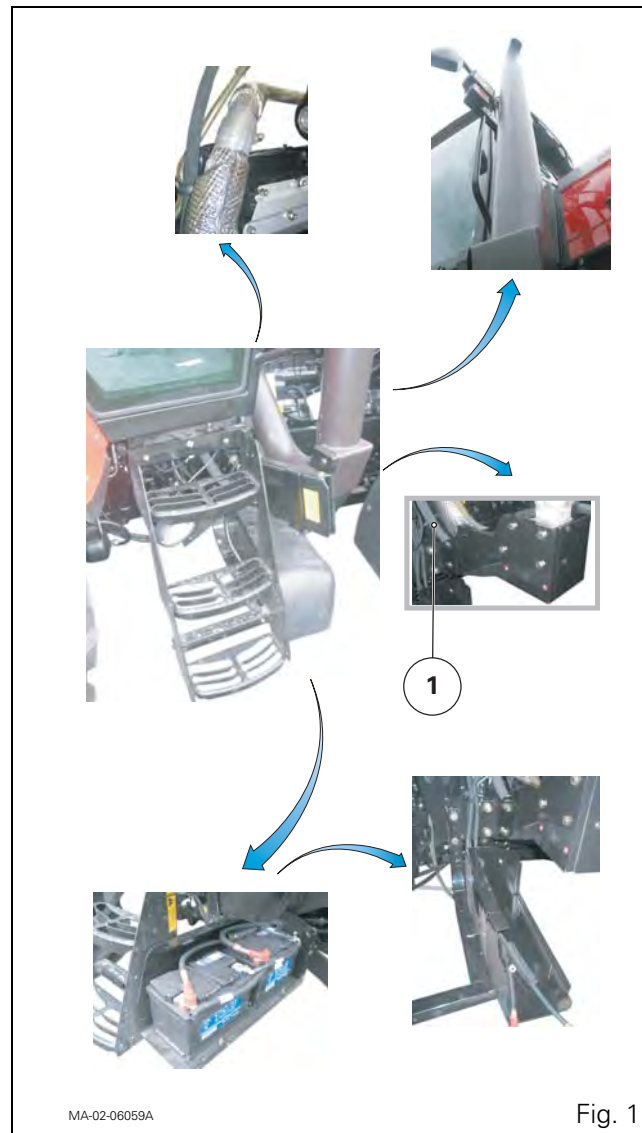

Fig. 1
8. Remove (Fig. 1):
- the flexible particle suction sleeve (1) between the air filter and the exhaust